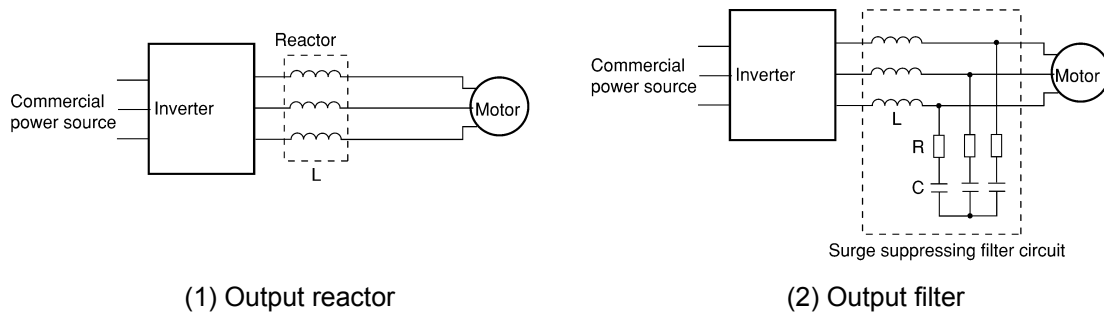

Figure 4 Method to Suppress Surge Voltage
If wiring length is relatively short the surge voltages can be suppressed by reducing the voltage rising ( $dv/dt$ ) with installation of an AC reactor on the output side of the inverter. (Refer to Figure 4 (1))
Installing a filter on the output side of the inverter allows a peak value of the motor terminal voltage to be reduced. (Refer to Figure 4 (2))